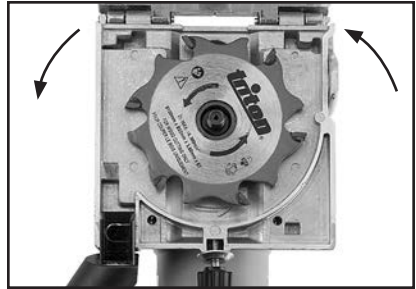

Figure 23. Blade installed with teeth facing correct direction.
8. Install new blade, verify teeth face correct direction for rotation of spindle, as shown in **Figure 23**.